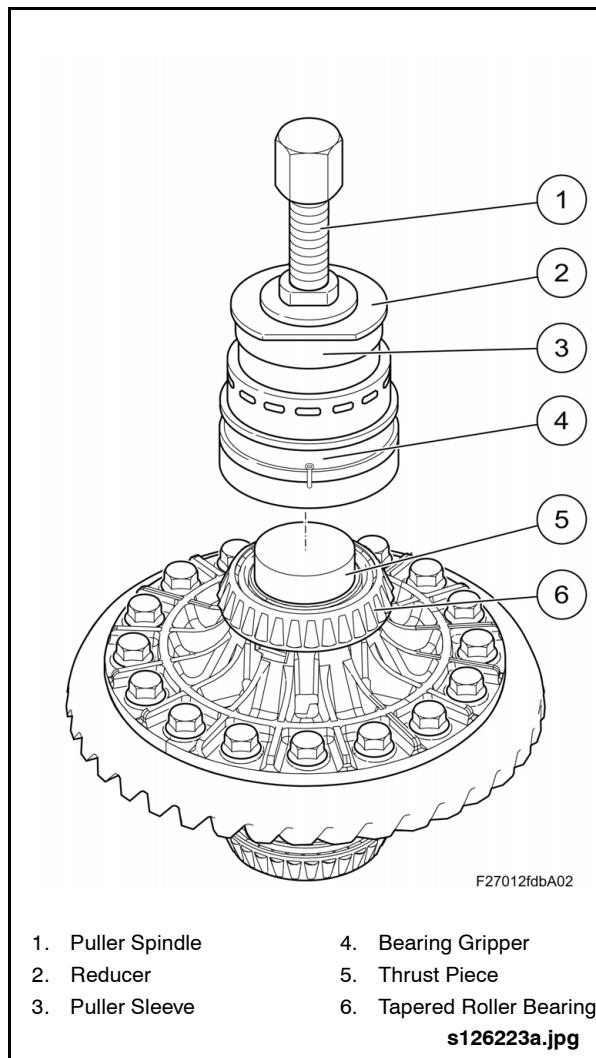

Fig. 2-56: Attaching Mechanical Puller
1. Insert the Differential Thrust Piece (Item 50 from Special Tools List) into differential. See "Fig. 2-56: Attaching Mechanical Puller" on page 48.
3. Assemble the Puller Spindle with Reducer and Puller Sleeve (Items 53, 54 & 52 from Special Tools List) and then mount on the bearing gripper. See "Fig. 2-56: Attaching Mechanical Puller" on page 48.